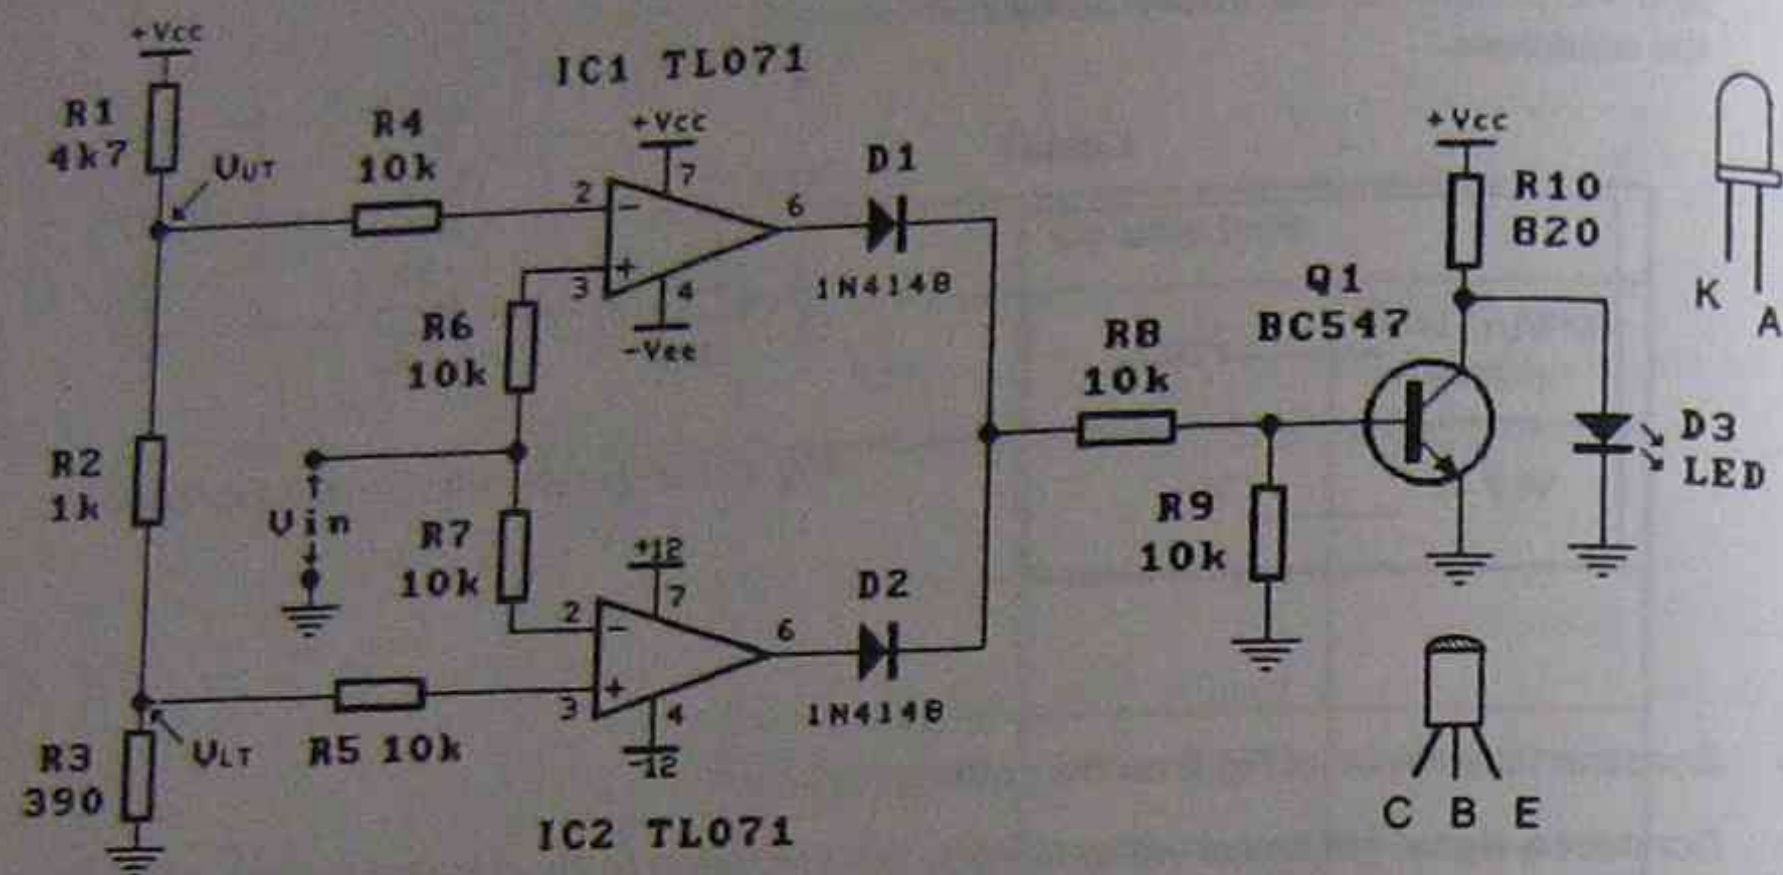

Fig.3: The window comparator
- For the circuit of Fig.3, calculate the upper (VUT) and lower (VLT) threshold voltages.
- Construct the circuit of Fig.3.